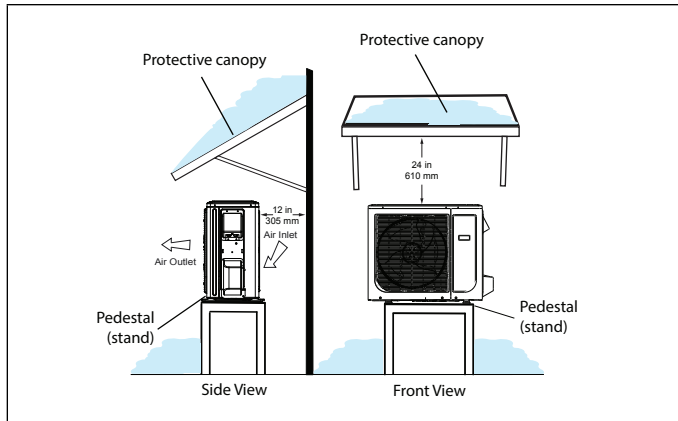
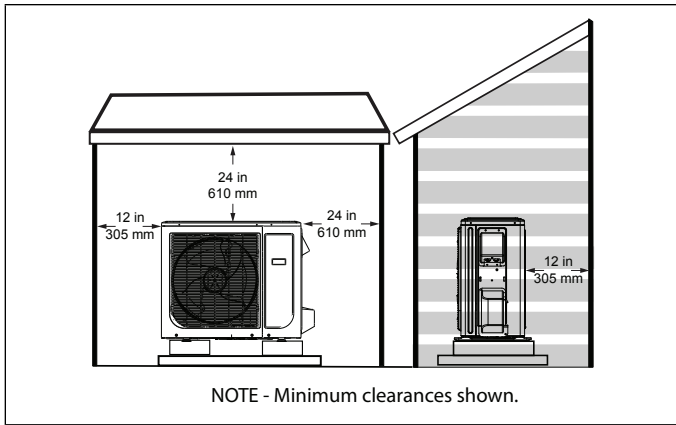

Figure 19. Outdoor Unit on Pedestal (Stand) and Protective Canopy
Figure 24. Dog House-Style Shelter
- If the outdoor unit is subjected to prolong exposure to direct sunlight with temperatures over 100°F (38°C) a canopy is recommended as illustrated in "Figure 19. Outdoor Unit on Pedestal (Stand) and Protective Canopy" or "Figure 24. Dog House-Style Shelter" on page 14.
- Place unit away from overhanging roof lines which would allow water or ice to drop on, or in front of, coil or into unit. Construct a canopy as illustrated in "Figure 19. Outdoor Unit on Pedestal (Stand) and Protective Canopy"
- Outdoor unit can be installed in a dog house style shelter as illustrated in “Figure 24. Dog House-Style Shelter”